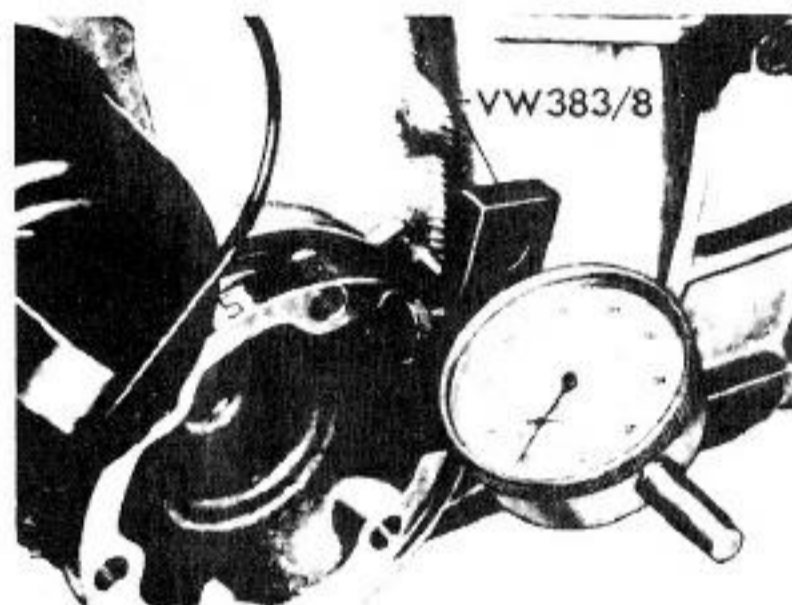

Fig. 11-37. Checking axial play, shaft installed.
- Install a dial indicator with a 10-mm (.400-in.) range as shown in Fig. 11-37.